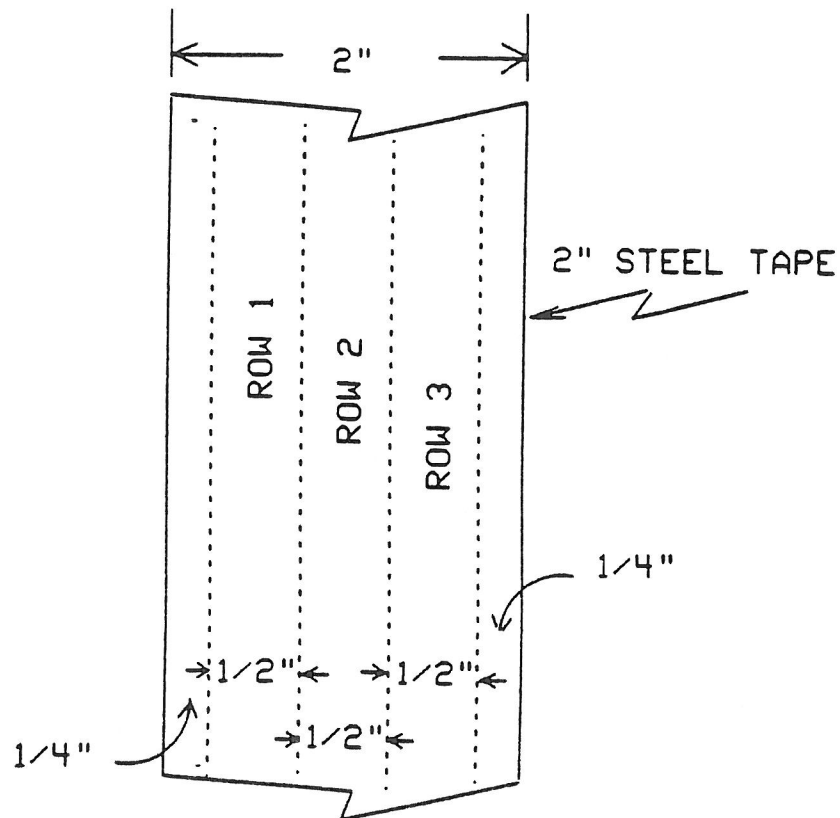

Figure 6. 2" Tape Dimensions
The 2" tape is divided into (3) three 1/2" rows. The first row starts at 1/4" from the left side of the tape, the second row starts at 3/4" and the third row at 1 1/4", etc. See figure 6.